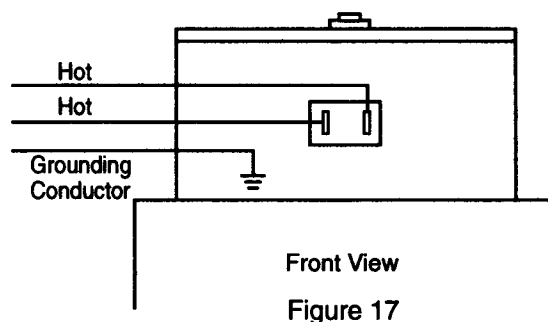

Figure 17
- Remove junction box cover and install the required bushing into the 3/4 in. knock out. With the supply voltage turned off, route three (3) wires into junction box for connections. (See Fig. 17.)